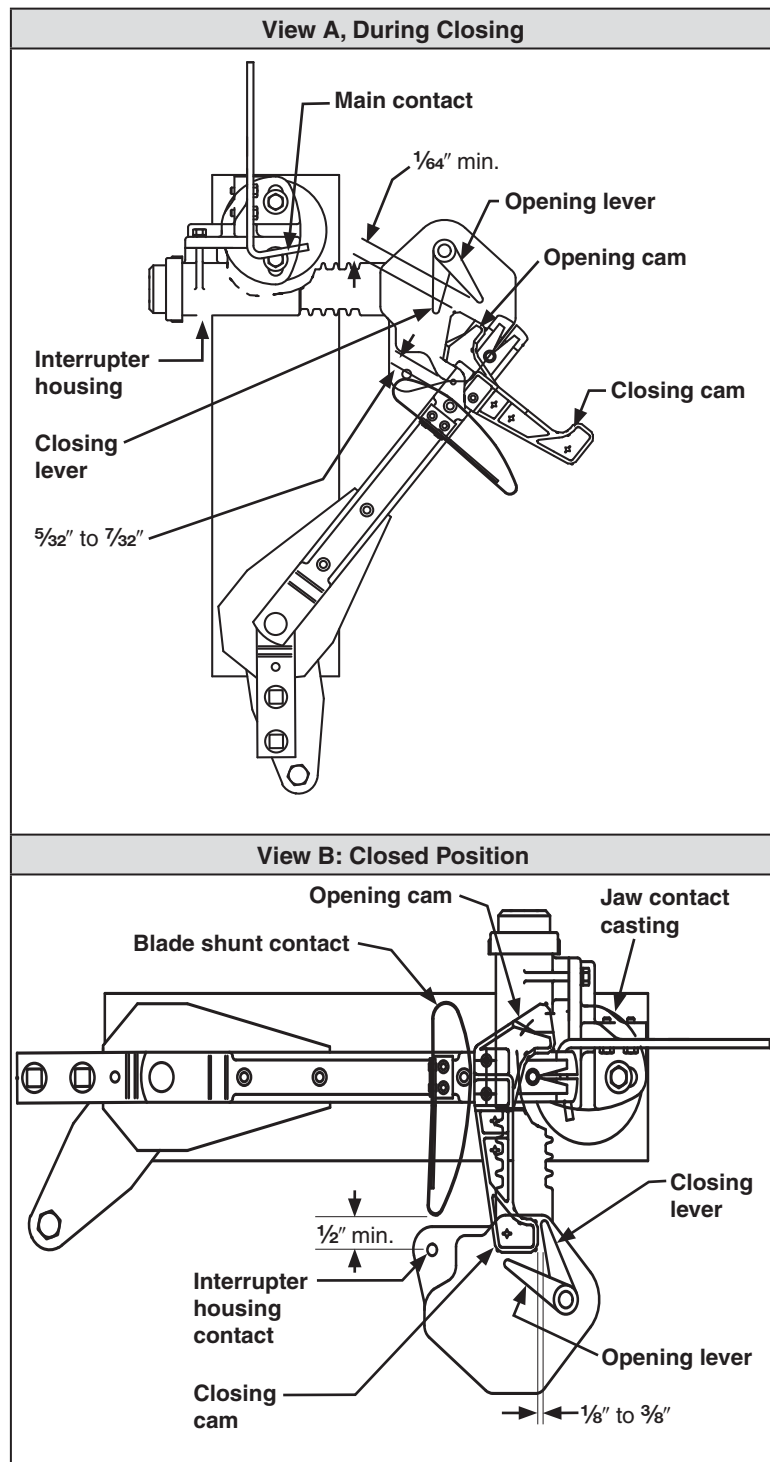

Figure 26. Operating checkpoints for switches rated 25 kV.
- c. Open the switch and place the blade in the position shown in Figure 26, View A. The following conditions should be met: